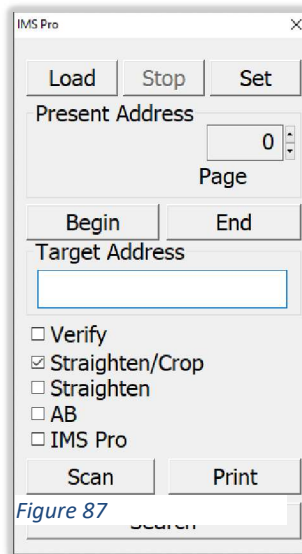

Figure 87
- Click the *IMS Pro* button again to open the *IMS Pro* window. *Figure 87*